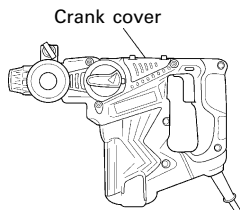

Fig. 22
- (1) Disassemble the crank cover and thoroughly wipe off the old grease inside. (Fig. 22)